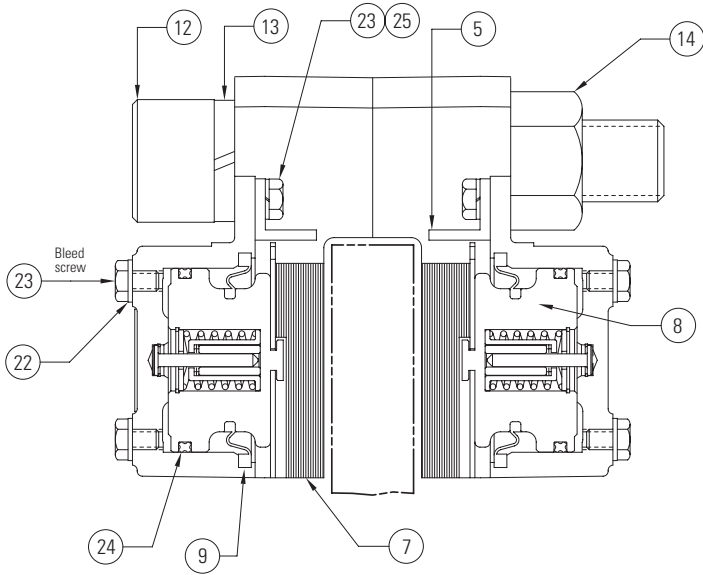

Figure 1
1.2.1 Throughout this manual, explanations mentioning specific components of the 225DP100 caliper disc brake assembly are often followed by numbers in parentheses, which refer to the item numbers in Table 1 and on Figures 1, 2 and 3; for example, friction shoe assembly (7).
Note: For hydraulic actuation installations, install the 225DP100 caliper disc brake assembly with the bleeder holes as high as possible to allow for the removal of the air from the hydraulic system. See Figure 1 and Table 1.